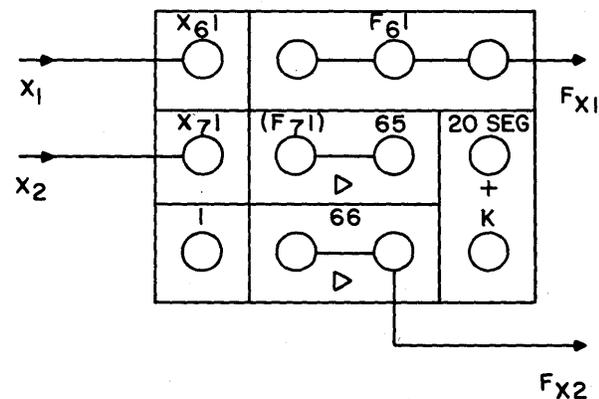

Figure 14. Diode Function Generator Patching.
(5) *Diode Function Generators.* Figure 14 shows the location of inputs X_1 and X_2 and the output terminals for FX_1 and FX_2 . This is the patching configuration for two ten-segment functions. If one twenty-segment function is desired, a green bottle plug is placed in the 20 SEG holes at the right. The two amplifiers (labelled 65 and 66 in figure 14) are made available for inverter service during 20 segment operation, they cannot be used in this manner unless the bottle plug is installed.